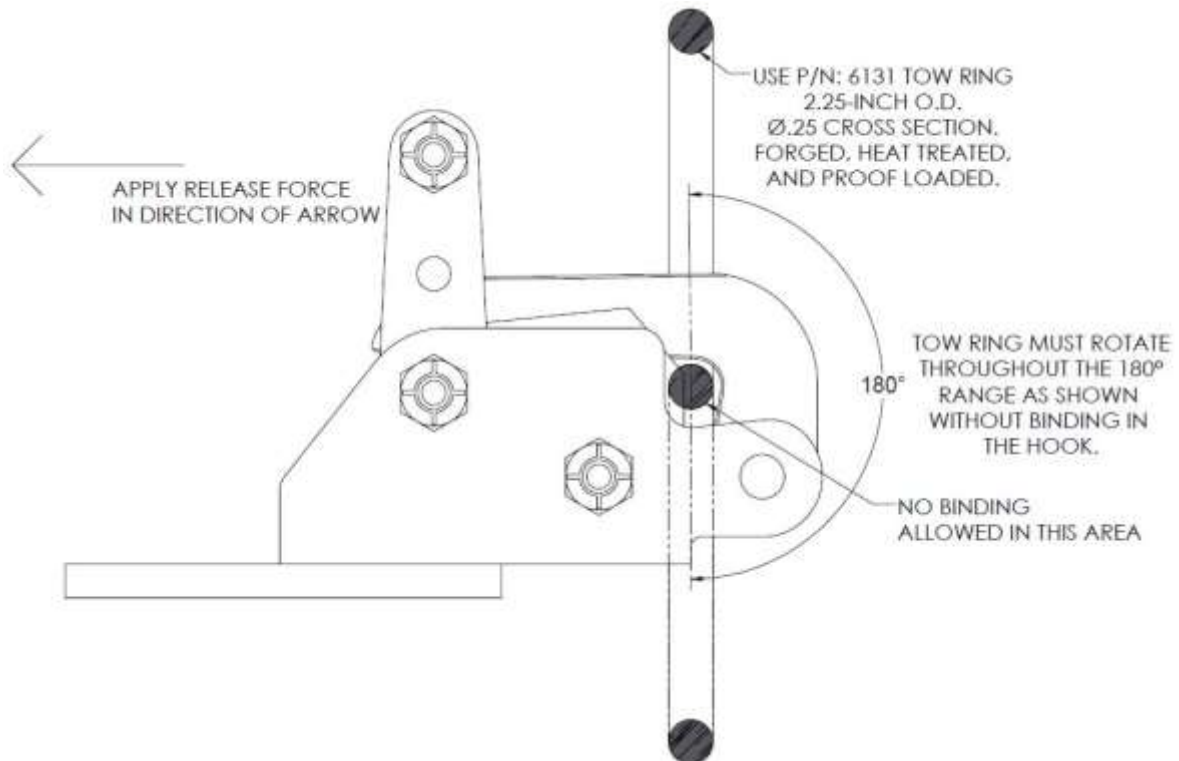

Figure 2.4: Tow Ring Clearance Test
- (1) Close and latch the Tow Hook with a Tow Ring in place, verifying that sufficient force is required to compress the Rubber Spring and that the Hook applies sufficient locking load against the Release Subassembly after it is engaged.
- (2) Verify that movement of the Release Subassembly towards the release position causes additional compression of the Rubber Spring.
- (3) Test the Tow Ring clearance as shown below in Figure 2.4. The Tow Ring must be able to freely rotate in place without binding. Rotate the Tow Ring to the opposite vertical position to verify there is no binding of the Tow Ring.